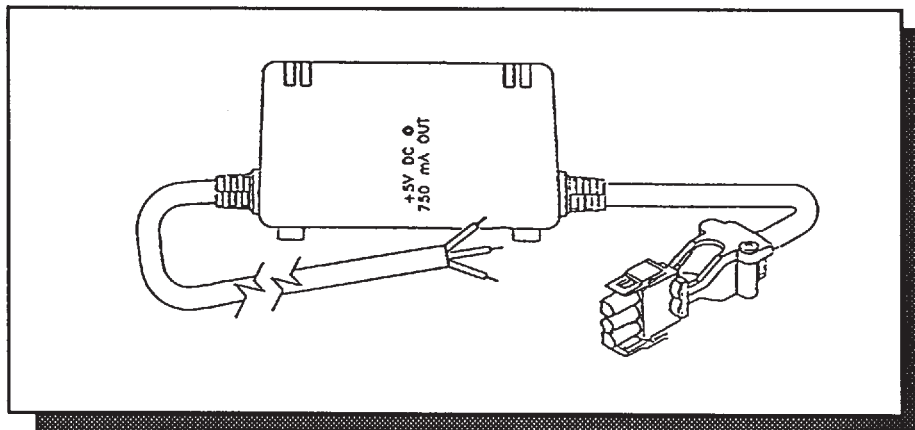

Figure 2-4 Typical Control Panel Controller Interconnection
- 230V: Remove the Power Pack from the box it was shipped in and check to insure that no damage has occurred in shipping. The 3-pin Mate-N-Lock connector should be plugged into the **POWER IN** position on the back of the LC Control Panel. The 230V version power pack does not have an AC plug. PESA does not provide outlet plugs for 230V Power Packs. Outlet connection must be provided by the customer. A 210V to 240V 50-60Hz power plug outlet for the specific area should be installed. Contact your authorized PESA products distributor or sales representative for assistance. See Figure 2-4.